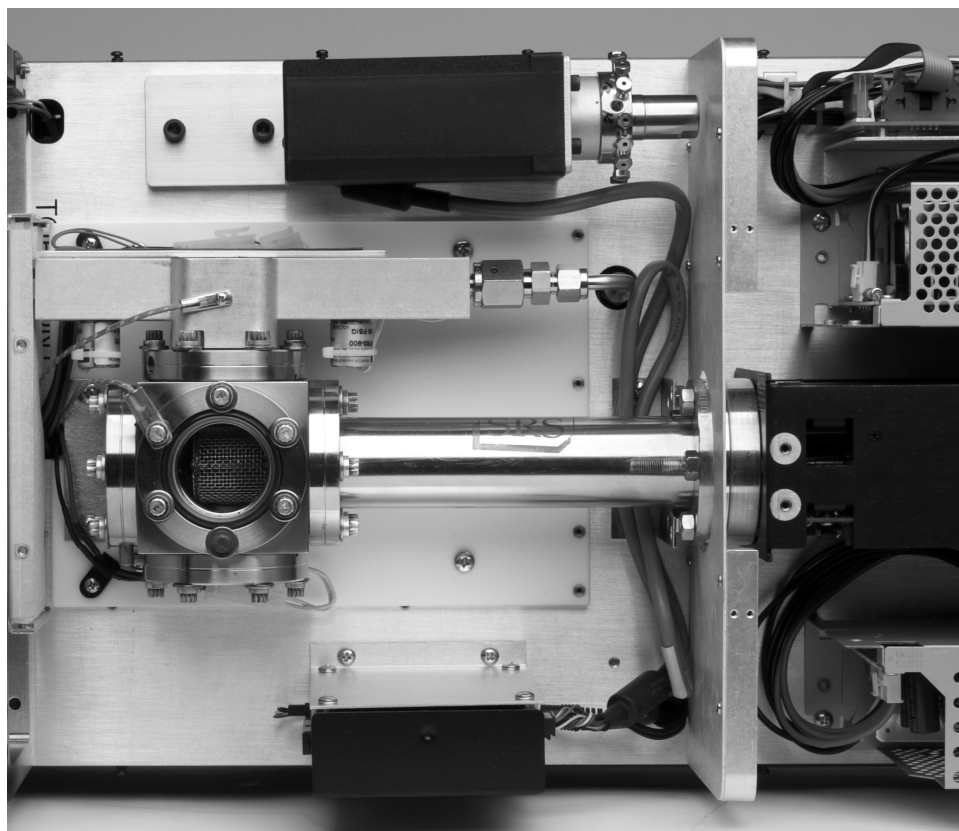

Figure 1-5a. Top Front Components
In Fig. 1-5a, the main chamber is shown. It consists of a sample line set, a cubic chamber, an RGA analyzer, a chamber heater, and a thermocouple. The sample line set is composed of 1/8"-UltraTorr connector, sample valve (SV), 40 μm pinhole port, bypass valve (BV), and bypass line. The sample line set and the RGA analyzer connect at a 2.75" cubic chamber (CHA) as shown in Fig. 1-5a.